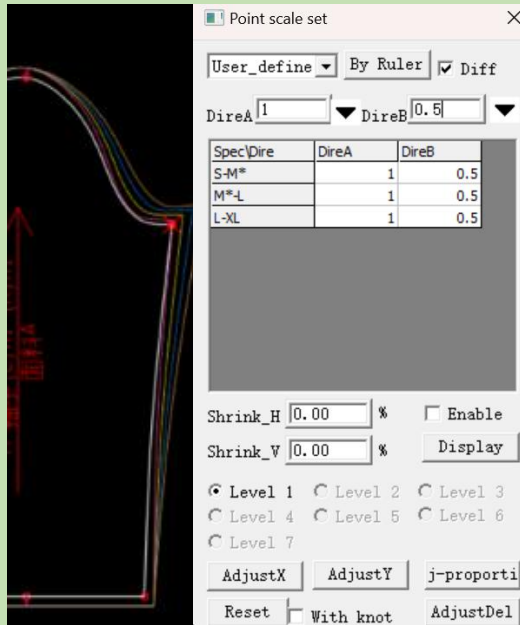

Figure5-36
1. Enter the grading data as shown in Figure 5-36.